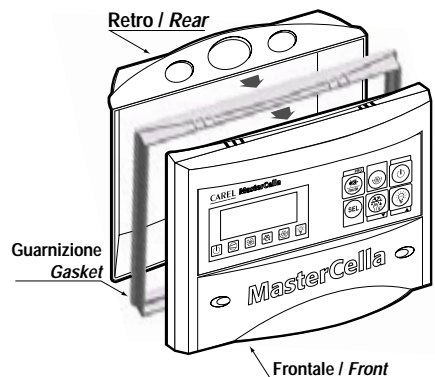

Fig. 1.1.1
1. Unscrew the two frontal screws (Fig. 1.1.1, parts **a**, **b**) and remove the central door (part **c**).